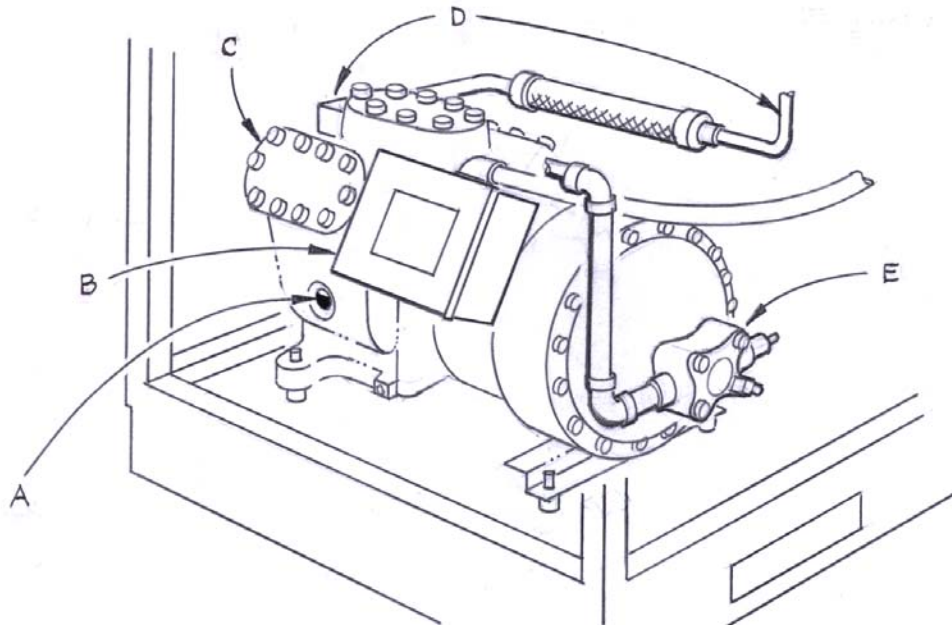

Figure 4-14: Compressor parts location
EXTREME TEMPERATURES EXIST Do not reach inside the compressor compartment when the unit is operating. The compressor's heads and discharge line may be hot; contact with the hot surface may result in minor or moderate injury. Do not touch the compressor's heads or discharge line. See Figure 4-14.
5. Remove the unit's left panel. Locate the oil sightglass on the compressor. (Figure 4-14.) It should be 1/8 to 1/2 full (1/8 full is preferred) while the compressor is running for at least 60 minutes.